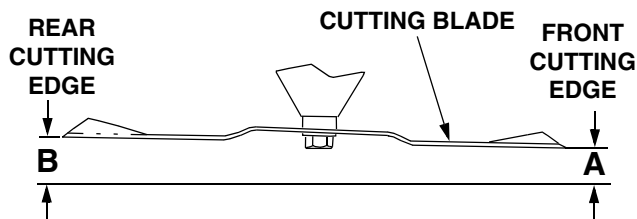

Figure 32
3. Measure and record the distance from the front cutting edge to the ground (measurement A), and from the rear cutting edge to the ground (measurement B), for each of the blades. The front edge of each blade (measurement A) should be lower than its back edge (measurement B) by 1/8 to 1/4 inch. See Figure 32.